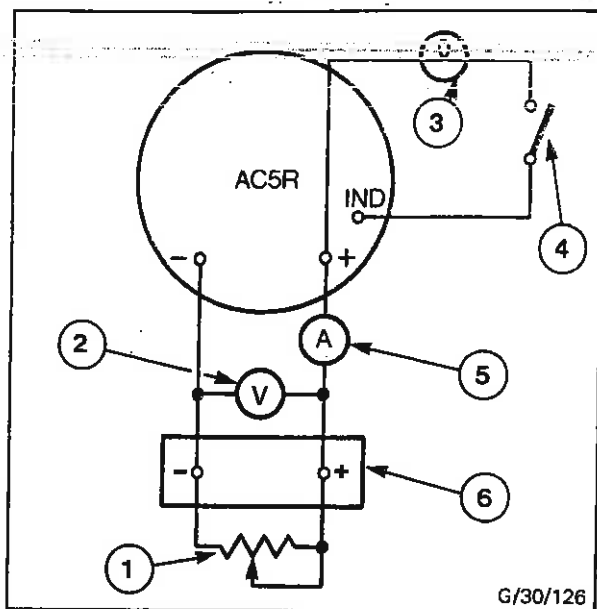

Fig. 90 - Alternator Test Circuit
1. Mount the alternator (with integral regulator correctly installed and connected) on the test machine and connect the test equipment as shown in Fig. 90; the switch should be open initially.